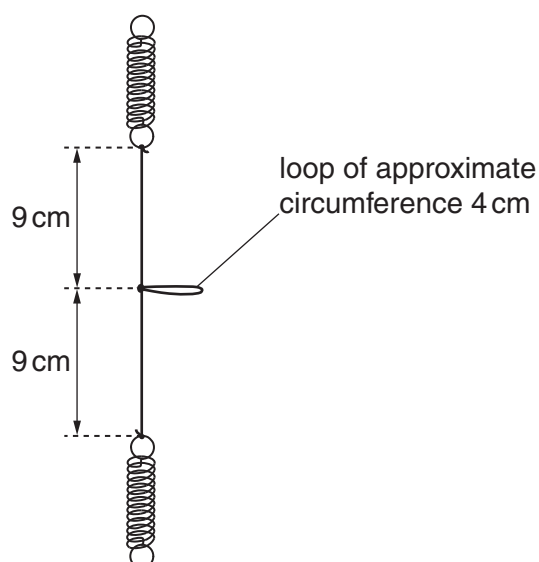

Fig. 1.1
- 1 Tie the springs together with a length of string. Make a loop half-way along the string, as shown in Fig. 1.1.